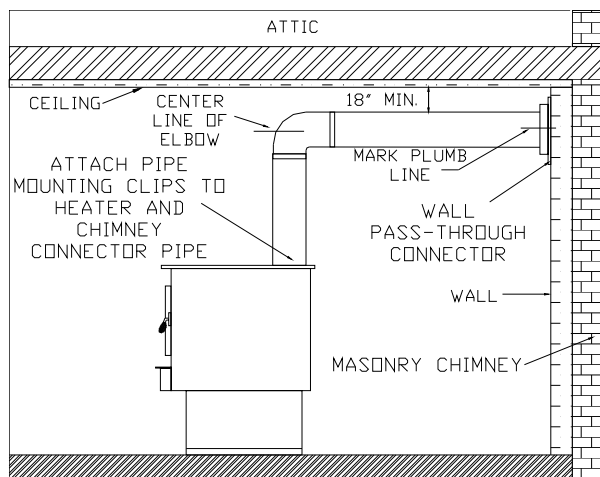

Figure 7
1. Before connecting these units to a masonry chimney, determine that the masonry fireplace wall pass-through connector thimble meets the **NFPA-211** Code and local building codes and is a minimum of 18" from the ceiling. If the connector thimble does not meet these codes, the pass-through connector must be modified. (See Figure 7.)